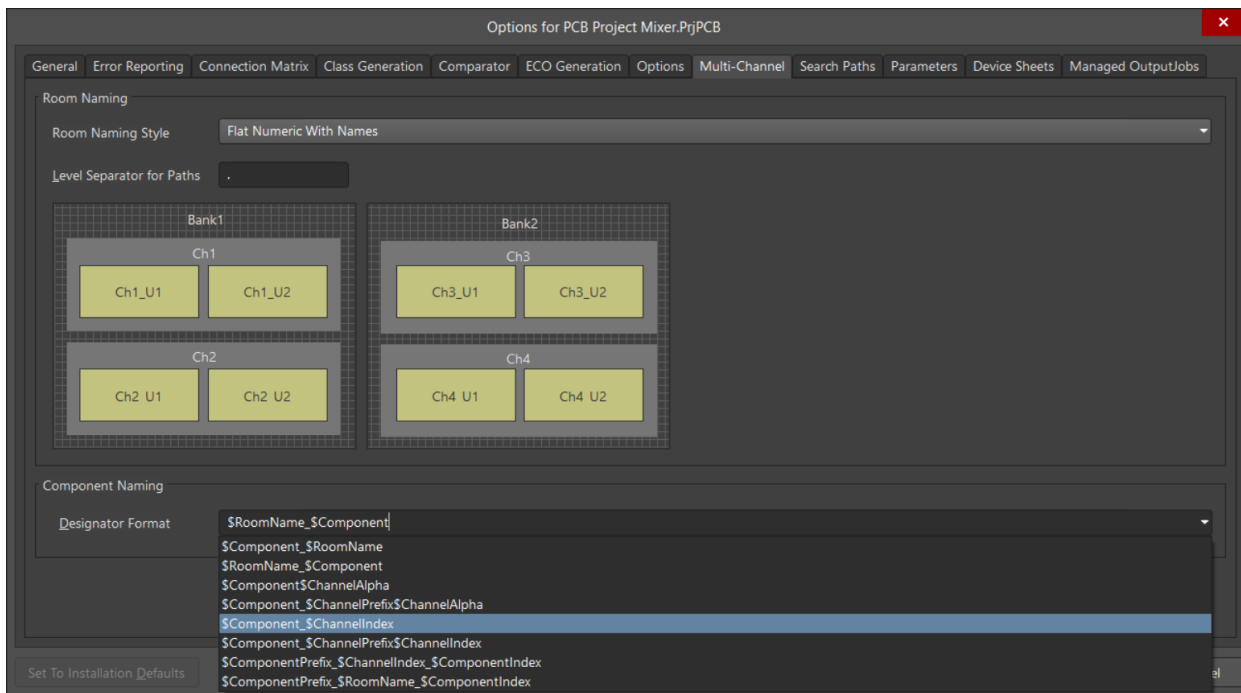

Figure 8. Multi-Channel formatting options
21. Select the tab **Multi-Channel** to change the format of designators as shown in Figure 8.